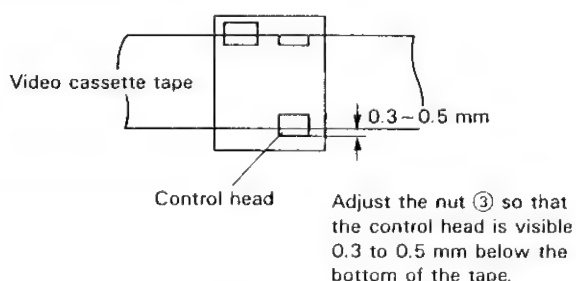

Figure 1-19.
●Replacement (See Figs. 1-19 and 1-20.)
7. Play an alignment tape and roughly adjust the height of the A/C head, visually, by turning the A/C head adjusting hexagon nut ③ with the box driver (JiGDRIVER110-7) until the tape comes to the position shown below. (See Fig. 1-19.)